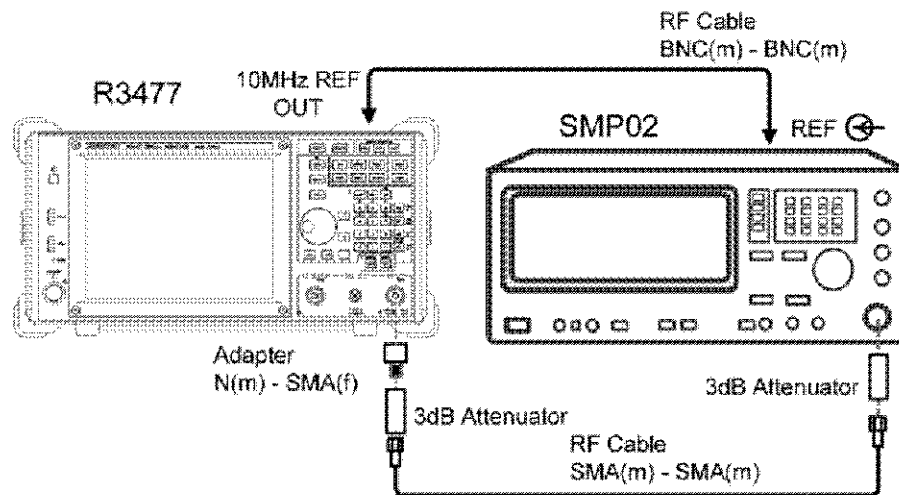

Figure 2-11 Attenuator Switching Accuracy Test
1. Connect the instruments as shown in Figure 2-11.